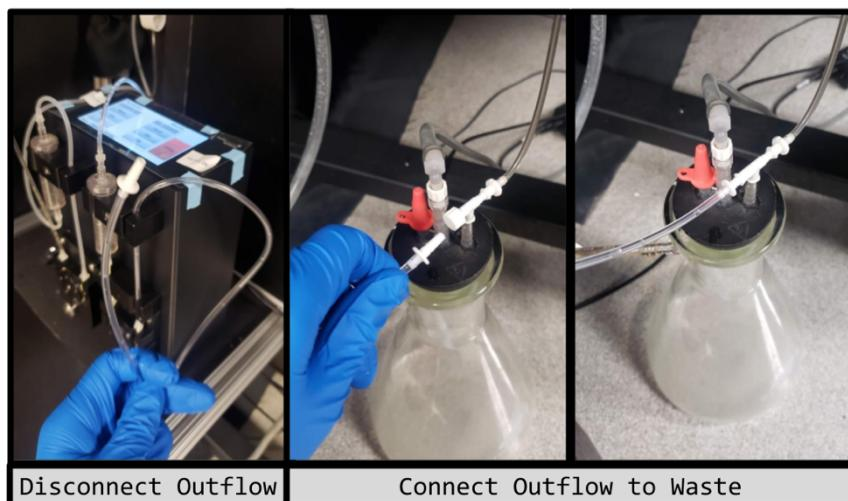

Figure 8: Visual instructions for connecting the outflow to waste.
- Before starting the perfusion, which loops outflow into inflow, run the perfusion into the waste flask to wash out contaminants. Use Figure 8 below as a reference. Alternatively, you can run the perfusion in the large water bath.
- Prepare MultiClamp (Figure 8).